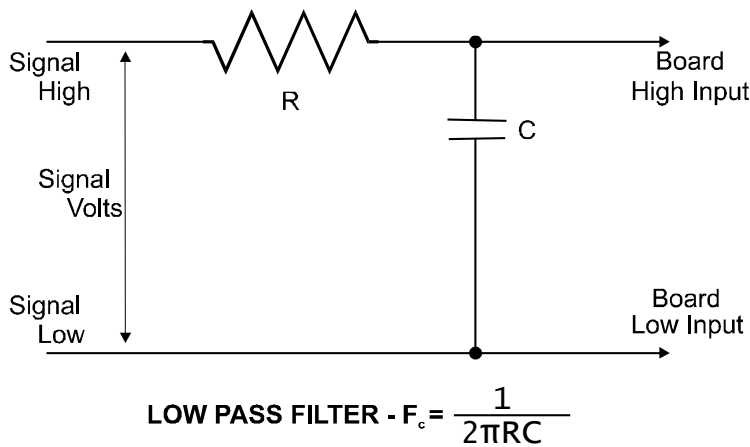

Figure 4-4. Low-Pass Filter Schematic
In a digital circuit, a low pass filter might be used to “de-bounce” (filter) an input from a switch or external relay. (Unless switch/relay contacts are mercury-whetted, they tend to bounce briefly on closure, generating a pulsating noise signal.) A simple low-pass filter can be constructed from one resistor (R) and one capacitor (C) (refer to Figure 4-4).